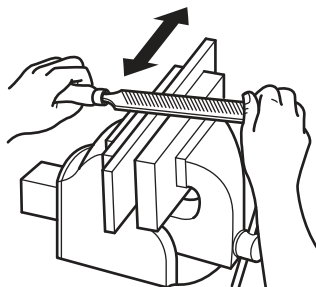

Fig. 2.1
- 2 There are three main stages to be carried out to produce a high quality finish to the edges of acrylic sheet. Fig. 2.1 shows the first stage.
- (a) Name the method of filing shown in Fig. 2.1.